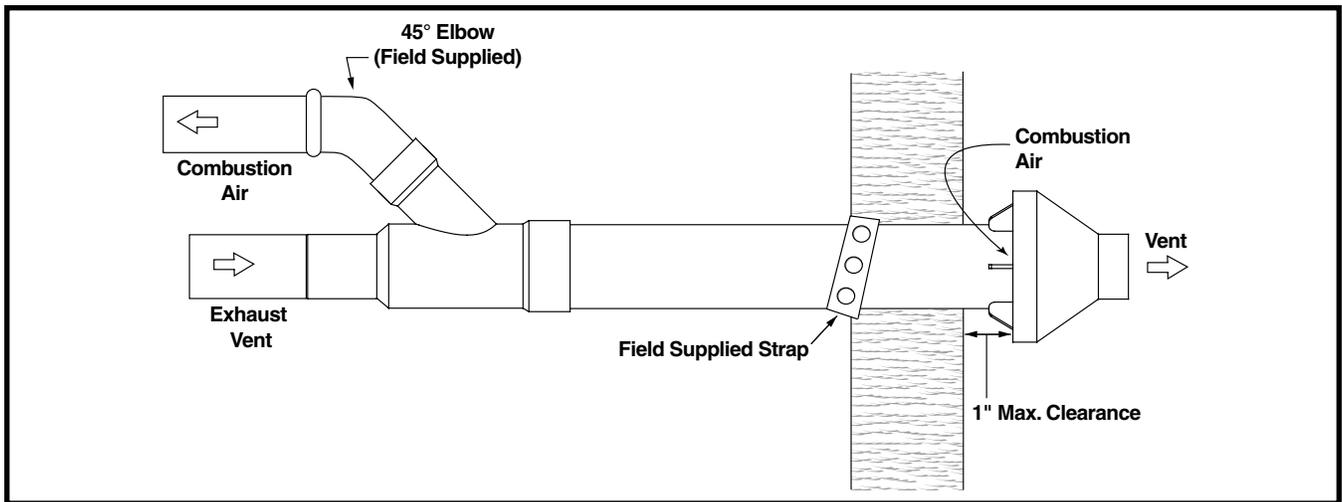

Figure 5. Side Wall Installation
4. Install cemented Y concentric fitting and pipe assembly through structure's hole (Figure 5). **NOTE:** Do not allow insulation or other materials to accumulate inside pipe assembly when installing through hole.
5. Secure the assembly to the structure as shown in Figure 5 using field supplied metal strapping or equivalent support material.
NOTE1: Ensure termination location clearance as shown in Figure 5.